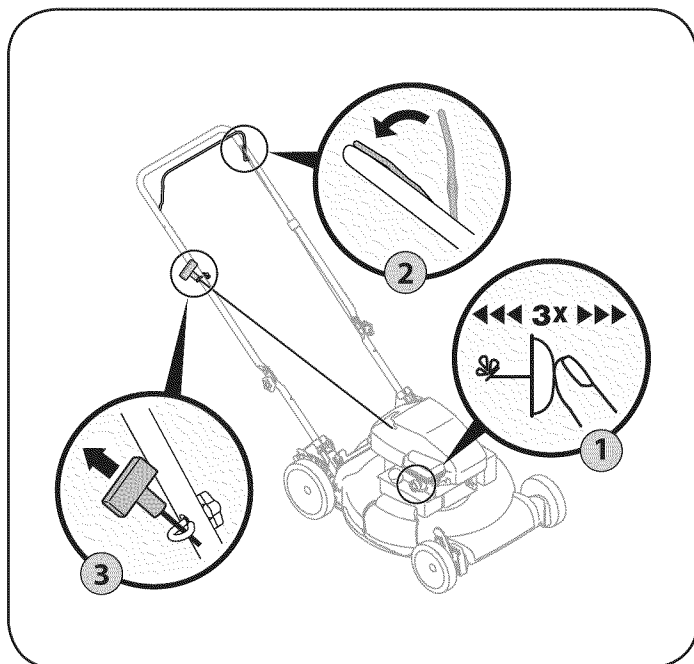

Figure 11
1. When starting the engine for the first time, push primer five times. For all future starts, push the primer three times. Wait about two seconds between each push. See Figure 11. Do not prime to restart a warm engine.
3. Holding these two handles together firmly, grasp recoil starter handle and pull rope slowly until resistance is felt, then pull with a rapid, continuous, full arm stroke. See Figure 11. Keeping a firm grip on the starter cord handle, let the rope rewind slowly. Repeat until engine cranks. Let the rope rewind each time slowly.